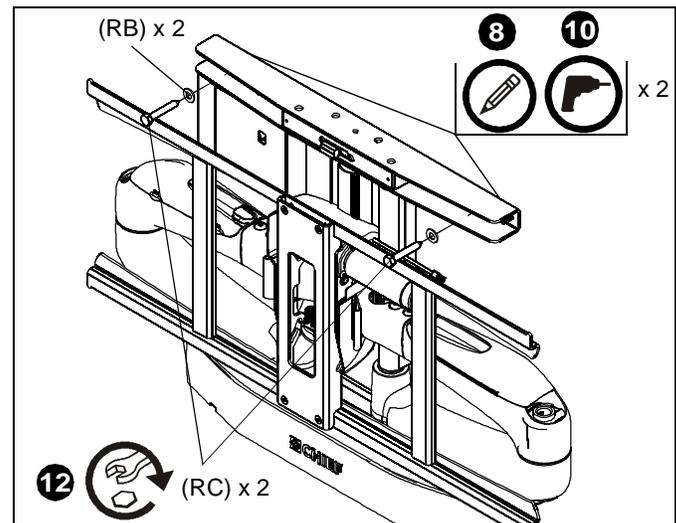

Figure 7
- Mark the pilot holes through PXR upper bracket. (See Figure 7)
- Return PXR to mounting bracket and fasten to wall using two 5/16 x 2-1/2" lag screws (RC) and two 5/16" flat washers (RB). (See Figure 7)
7. Lower PXR (Q) onto mounting bracket, ensuring PXR fits over mounting bracket (X) tabs. (See Figure 7)